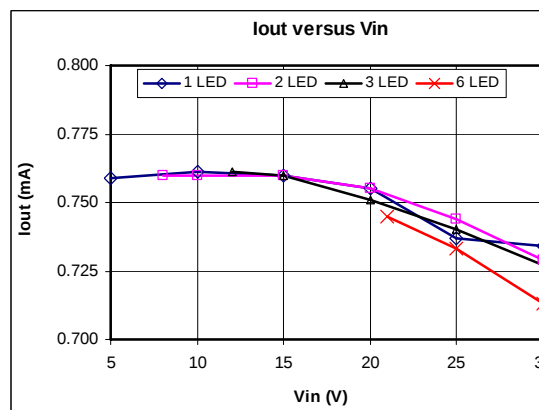

Fig. 5: Output Current vs Input Voltage
i) Place the bypass capacitors C4 and C5 as close as possible to the XRP7604 IC. See figure 5 for details.